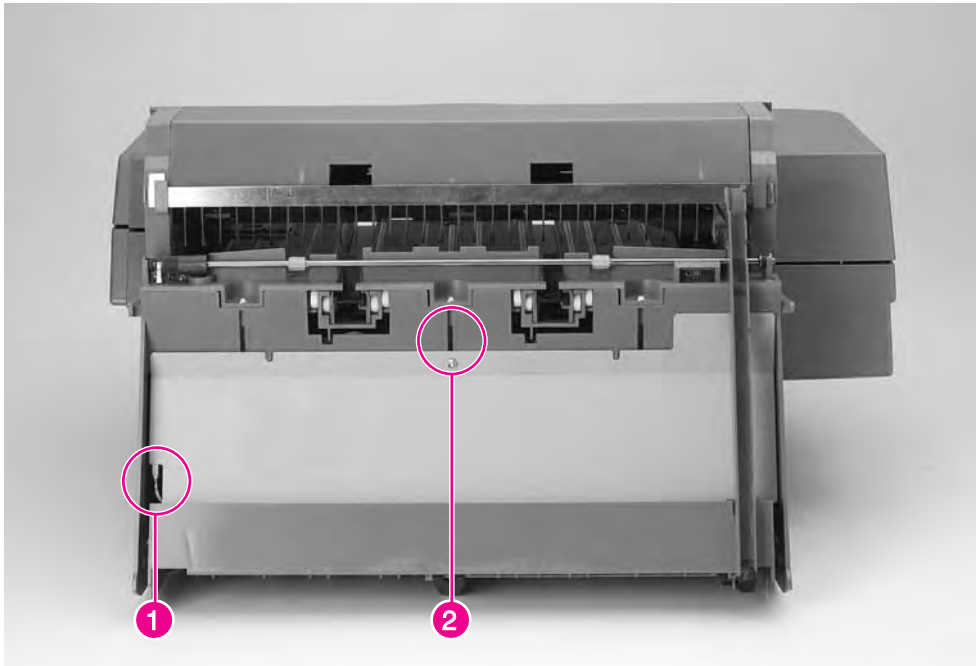

Figure 6-181 Back Plate (2 of 2)
- 3 Remove the Torx screw joining the Back Plate with the Stapler (see figure 6-181, callout 2).
- 4 Release the ground cable that is connected to the Back Plate (see figure 6-181, callout 1).